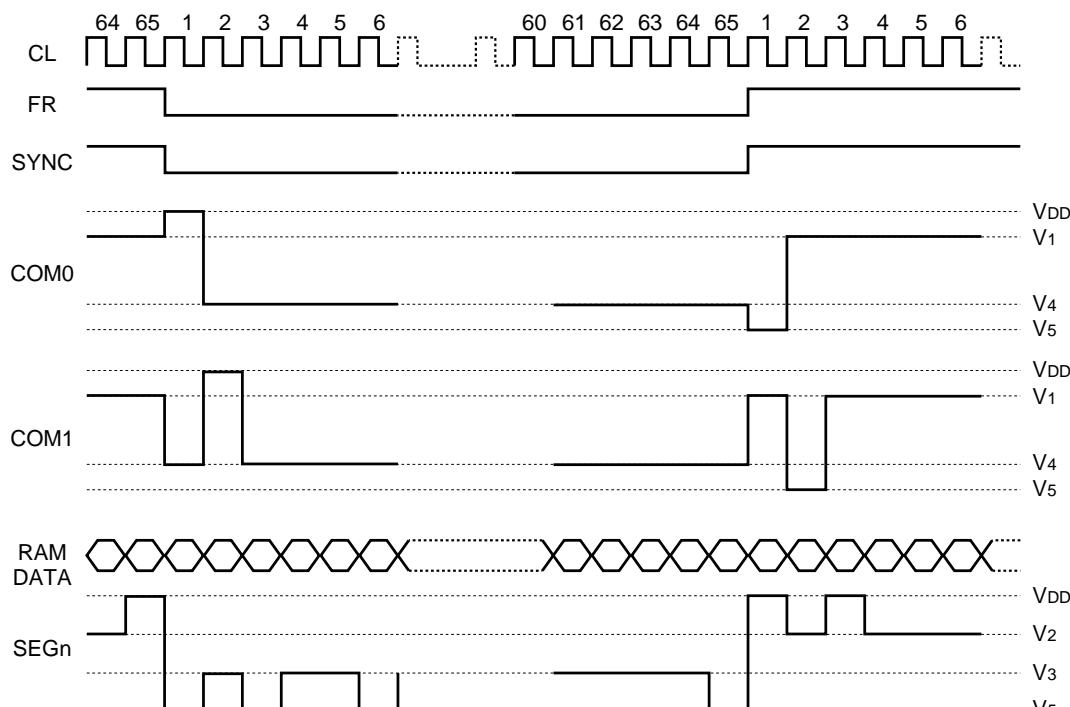

Fig. 5
The circuit also generates the internal common timing, liquid crystal alternating current signal (FR), and synchronous signal (SYNC) from the display clocks. As shown in Fig. 5, the FR normally generates the drive waveforms in the 2-frame alternating current drive system to the liquid crystal drive circuit. It can generate n-line reversal alternating current drive waveforms by setting data (n-1) to the n-line reversal drive register. If a display quality problem such as crosstalk occurs, it can be improved by using the n-line reversal alternating current drive waveforms. Determine the number of lines (n) to which alternating current is applied by actually displaying the liquid crystal.